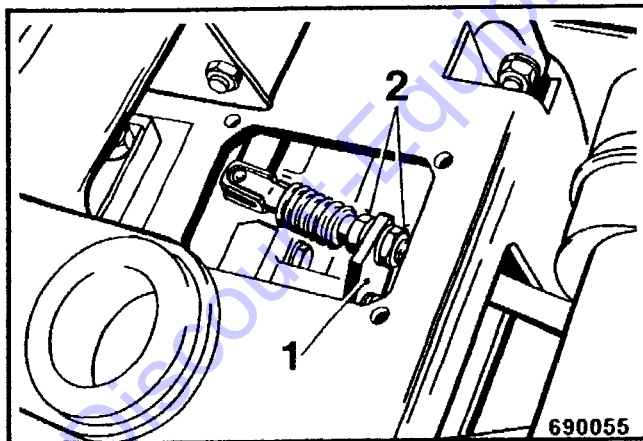

Fig. 2
- Loosen two adjustment nuts 2 (Fig. 2) and take the travel cable out of the fork (1).